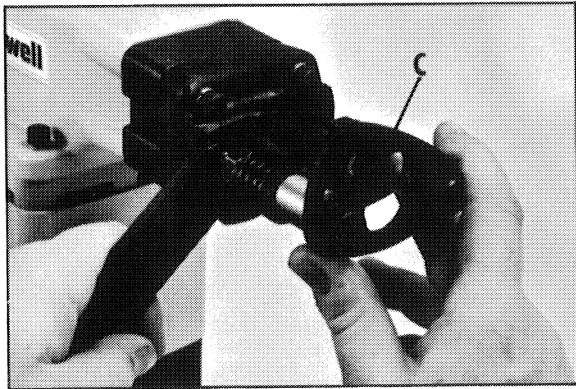

Fig. 2
4. Pivot latch (C) to the open position, as shown in Fig. 2.